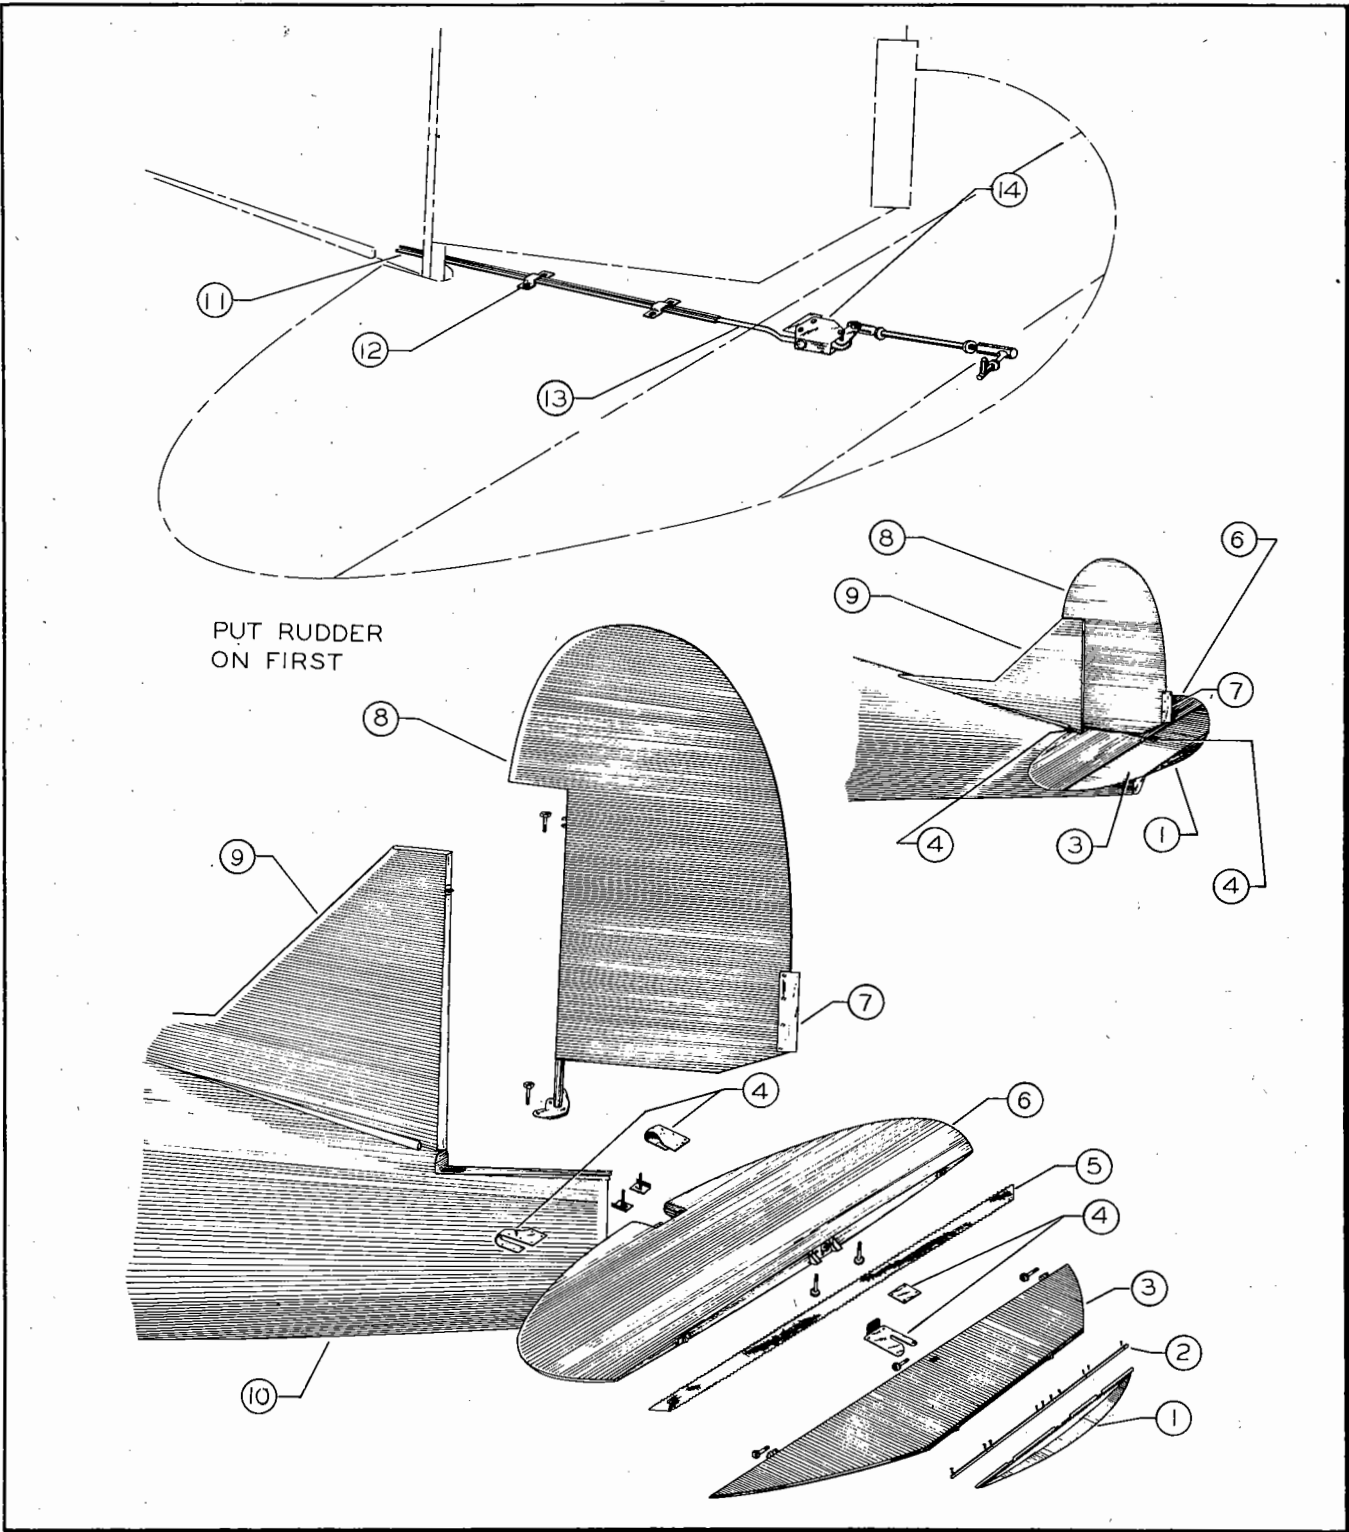

Figure 17—Empennage Assembly
(b) Connect the rudder cables to the rudder horn. (See figure 17.)
(2) STABILIZER INSTALLATION.—Install the four mounting bolts through the fuselage longeron and the front and rear stabilizer brackets. Install the leading edge cover plates. (See figure 17.)
(3) ELEVATOR INSTALLATION.
(d) Dope a piece of tape over the gap between the stabilizer and elevator. This tape should be about 3 inches wide with pinked edges and doped down the length of the gap for the TDC-2 and halfway across for the PQ-8A. (See figure 17.)
(c) Connect the push-pull tube to the ball socket on the tab. (See figure 17.)
Key to Figure 17